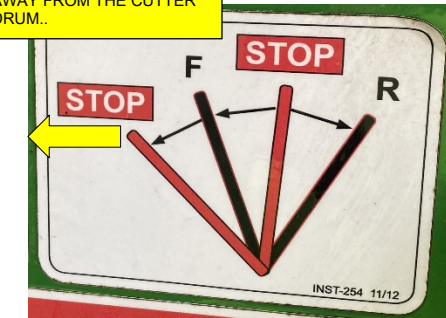

Fig4: PUSHING THE FEED CONTROL BAR TO REVERSE THE FEED ROLLERS.
3. In the event where product is lodged in between the feed rollers, reverse the feed rollers to dislodge the product with extreme care by pushing the red coloured feed control bar into the reverse position, fig 4. The feed rollers will now eject the product away from the internal cutter drum.